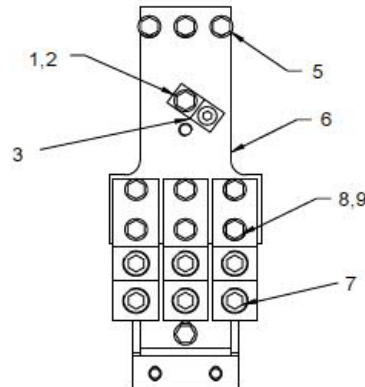

Fig. 2
5. Install the new neutral bus and 3/8-16 X 2.00 hex head bolts as shown in Fig. 2 below (item 6,5)
6. Install the new lugs, 3/8-16 X1.250 hex head bolts and 3/8 conical washers as shown in Fig. 2 below (item 7,8,9)
8. Install the 3/8-16 X 1.00 hex head bolt, 3/8 conical washer and Ground lug (items 1,2,3) as shown in Fig. 2 below.